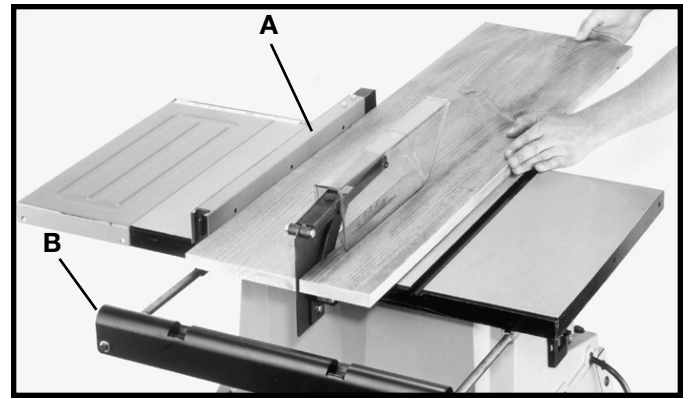

Fig. 50
Ripping is cutting lengthwise through a board. The rip fence (A) Fig. 50 is used to position and guide the work. One edge of the work rides against the rip fence while the flat side of the board rests on the table. Since the work is pushed along the fence, it must have a straight edge and make solid contact with the table. The saw blade guard must be used. On Delta saws, the guard has anti-kickback fingers to prevent kickback and a splitter to prevent the wood kerf from closing and binding the blade.
1. Start the motor and advance the work holding it down and against the fence. **Never** stand in the line of the saw cut when ripping. Hold the work with both hands and push it along the fence and into the saw blade (Fig. 50). The work can then be fed through the saw blade with one or two hands. After the work is beyond the saw blade and anti-kickback fingers, the hand is removed from the work. When this is done the work will either stay on the table, tilt up slightly and be caught by the end of the rear guard, or slide off the table to the floor. Alternately, the feed can continue to the end of the table, after which the work is lifted and brought along the outside edge of the fence. The cut-off stock remains on the table and is not touched until the saw blade has stopped, unless it is a large piece allowing safe removal. When ripping boards longer than three feet, it is recommended that outfeed support (B) Fig. 50, should be extended as far out as possible to keep workpiece from falling off the saw table.